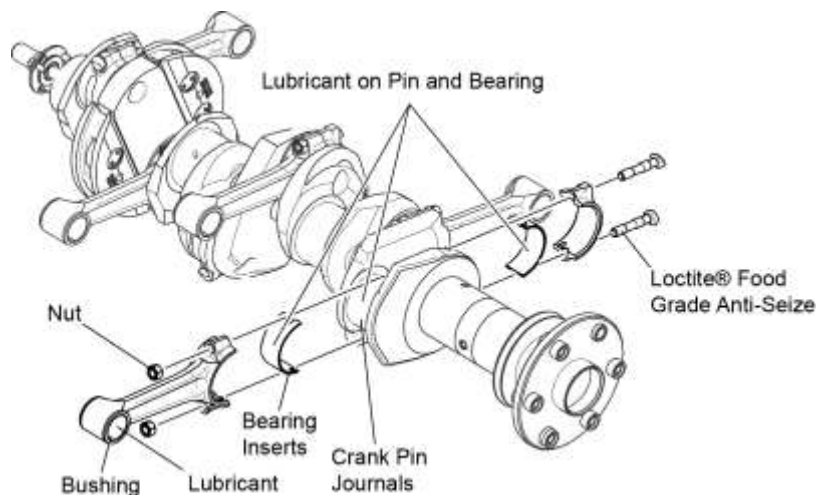
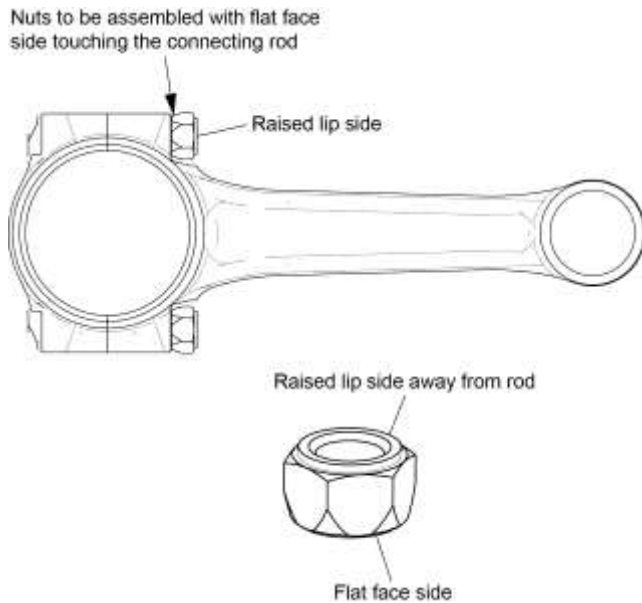
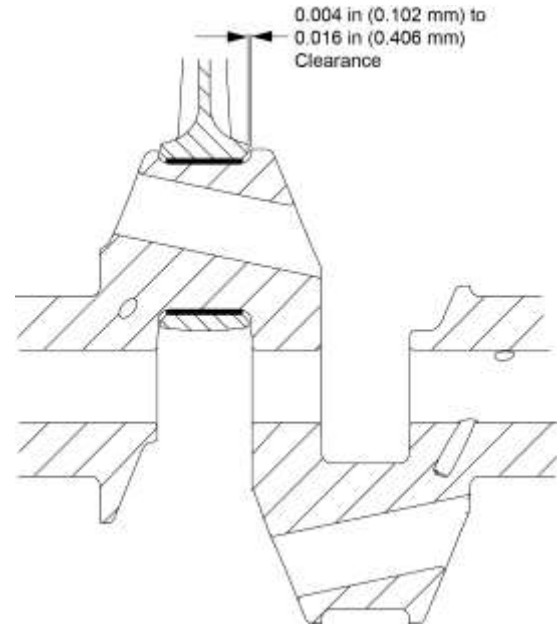

Figure 52
Figure 53
Figure 54
- (1) Ensure that all of the connecting rods have the same weight class letter.
- (2) Apply specified lubricant to the connecting rod and bearing inserts per the latest revision of Service Instruction No. SI-1059 where shown in Figure 52. Different lubricants are used on the various areas on the connecting rod and bearing surfaces.
- (6) Apply Loctite® Food-Grade Anti-Seize Lubricant or equivalent to the bottom two or three threads of the new connecting rod bolts (Figure 52). Wipe away excess lubricant with a clean, lint-free cloth.
- (7) Apply engine oil mixture to the crank pin journals.
- (8) Install each connecting rod end cap (with the bearings installed) on their respective crank pins on the crankshaft (where the numbers on the connecting rods and bearing locks point down - toward the oil sump.)
- (9) Install a new nut on each new connecting rod bolt where the flat face of the nut touches the connecting rod as shown in Figure 53.
- (10) Torque the connecting rod bolts per the torque values in the latest revision of Service Instruction No. SI-1458. (Stretch bolts require an initial torque and are then torqued to the correct stretched length.)
- (11) Measure the side clearance between the connecting rod and crankshaft with a feeler gage where shown in Figure 54. The clearance is to be 0.004 to 0.016 in (0.102 to 0.406 mm).